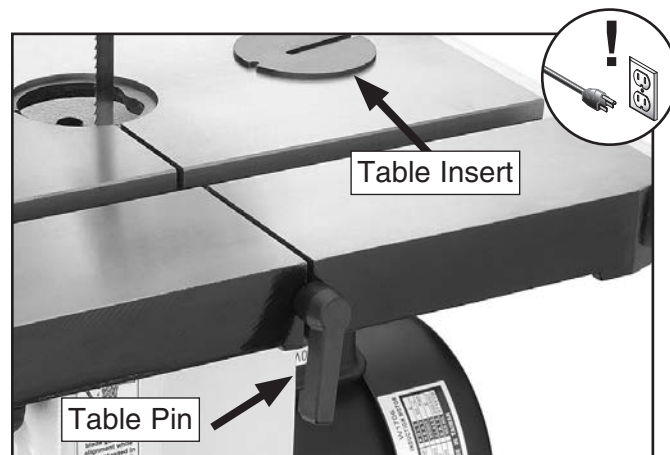

Figure 49. Table insert and table pin.
4. Remove the fence and miter gauge from the table, then remove the table insert and table pin (see **Figure 49**).